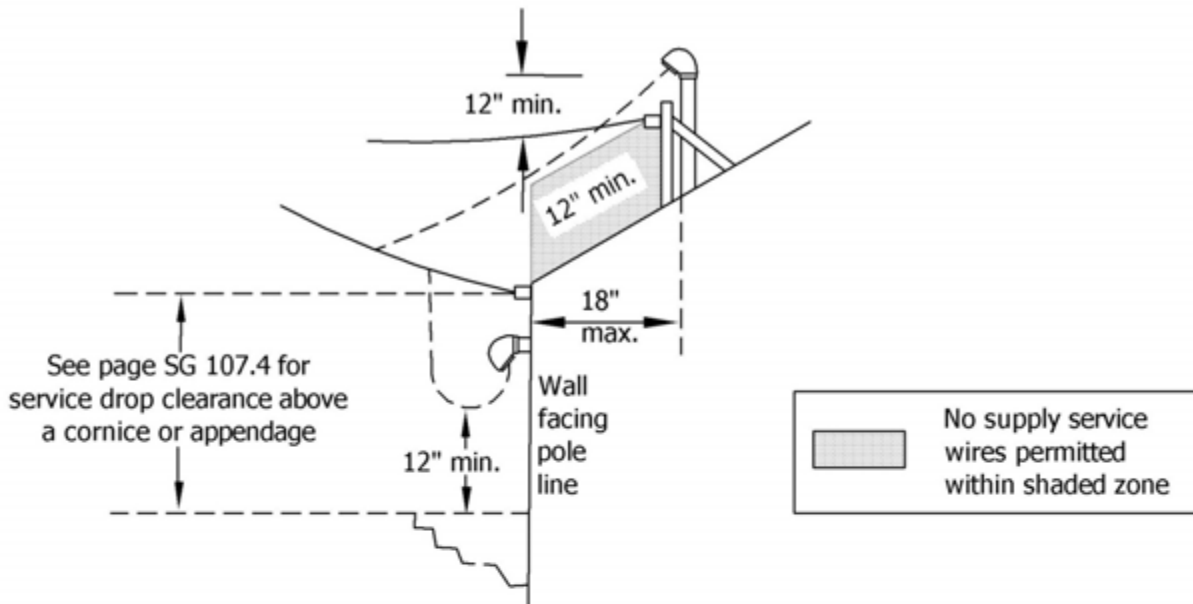

FIGURE 1
Notes to Figures 1 – 6:
2. 0 – 600-volt service drop conductors and supporting service insulator may be attached to a conduit riser in lieu of the support rack illustrated in Figures 1 – 6 provided the service entrance conductors and service drop conductors do not pass through the shaded zones illustrated.